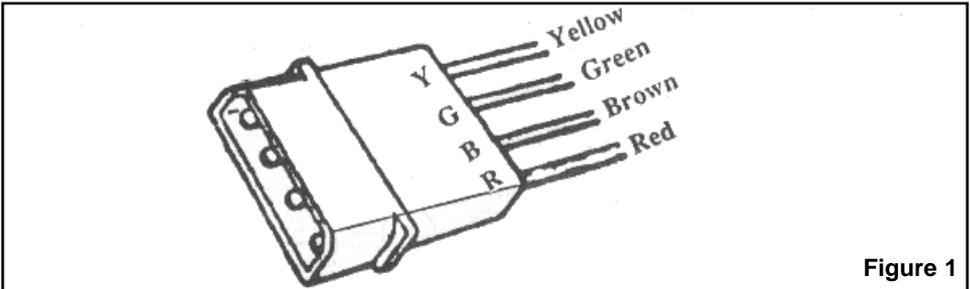

Figure 1
- A) Install 4-pin connector onto control switch wires. Red to "R", Brown to "B", Green to "G", and Yellow to "Y". (Figure 1)